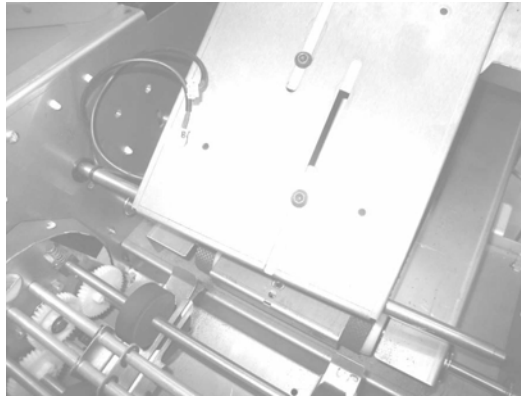

Fig. 3.5
2. On the drive side, unplug the conveyor sensors from the splitter PCB and pull the cable inside the chassis. Remove the screw at the end of the shaft and lift out the conveyor by inserting the shaft end through the cable hole to free the other end (see Fig. 3.5 below).